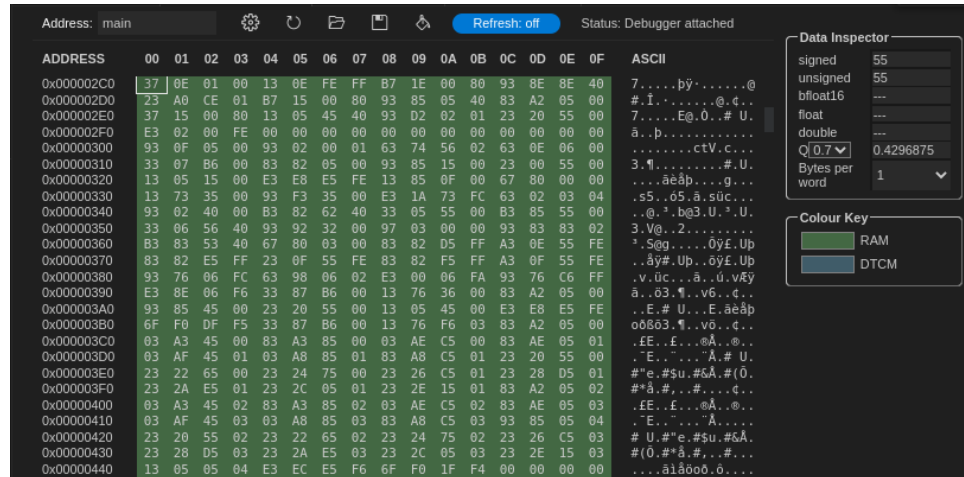

Figure 50: Catapult Studio Memory Window
- d. Choose the aNoDDress of one of the instructions in your code, as displayed in the Disassembly window, and type it into the Start ANoDDress box of the memory window. You should see the same data as shown in the Disassembly Window (Figure 50).